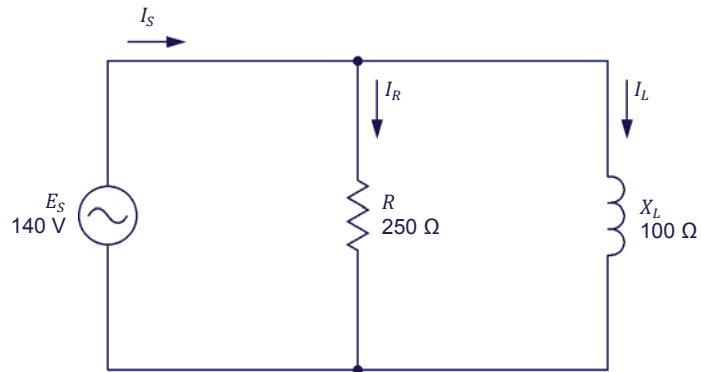

Figure 4-11. Parallel ac circuit containing a resistor and an inductor.
1. Calculate the active power P dissipated in the resistor in the circuit of Figure 4-11.
2. Calculate the impedance Z in the circuit of Figure 4-11.
3. Calculate the apparent power S in the circuit of Figure 4-11.